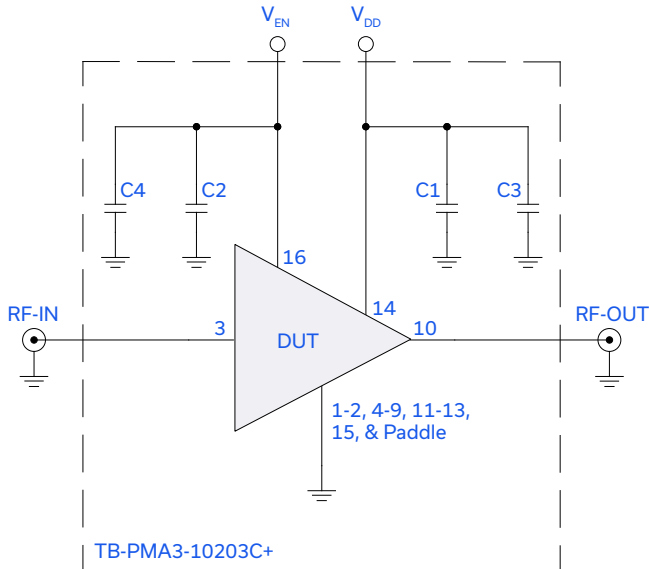

Figure 2. PMA3-10203+ Characterization and Application Circuit.
1. Tested on Mini-Circuits Characterization Test Board TB-PMA3-10203C+. See Figure 2. Board loss de-embedded to the device.